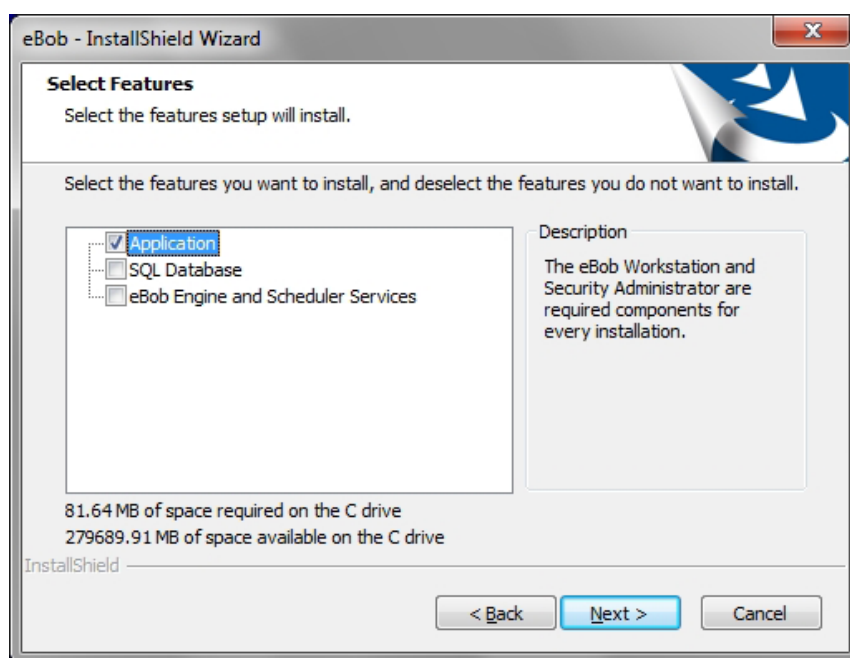

Figure 7
- d. If this installation is for a Remote Workstation, check only the Application as shown in Figure 7.